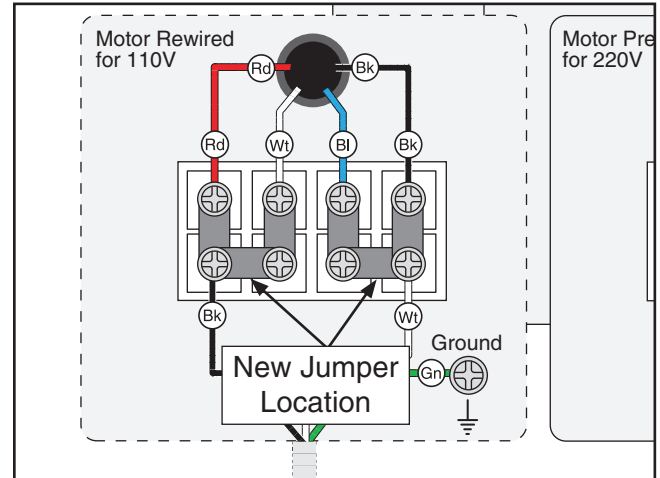

Figure 5. Relocated jumpers.
4. Remove the two center jumpers (they are stacked together), reposition them as shown in **Figure 5**, then tighten the four screws loosened in **Step 2**.